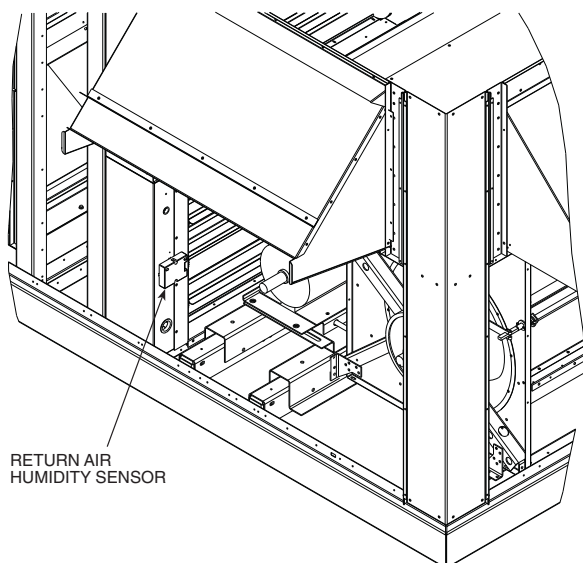

Fig. 7 — Typical Return Air Humidity Sensor Location for 48/500P and 48/50Z Series Units
2. Open the power exhaust section door/panel to gain access to the location where the humidity sensor will be mounted. See Fig. 7.
3. Install the humidity sensor using the screws provided. See Fig. 7. Attachment holes are pre-punched.